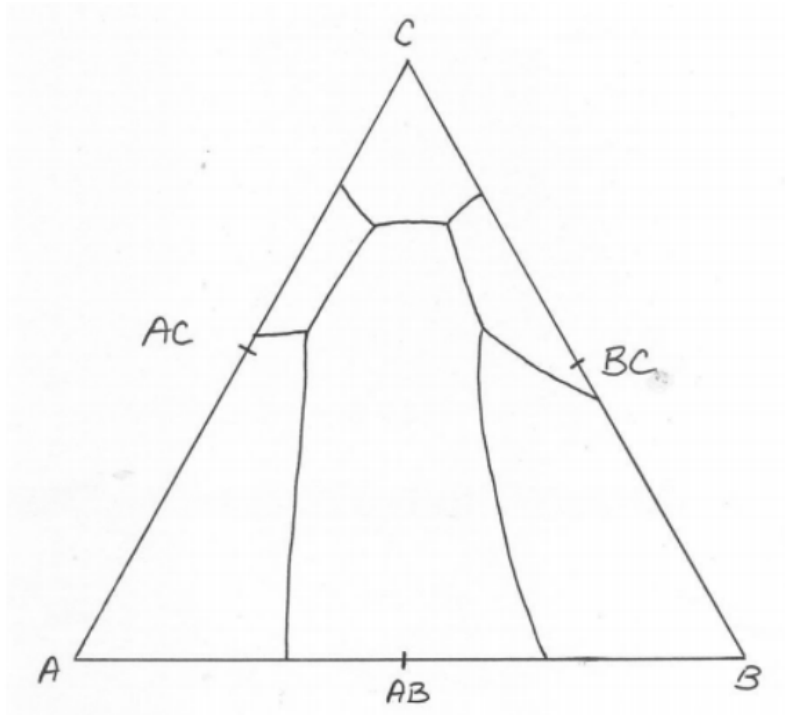

Figure 3.6: Liquidus projection diagram.
8) On the liquidus projection diagram for the hypothetical system A-B-C shown in Figure 3.6), complete the following: